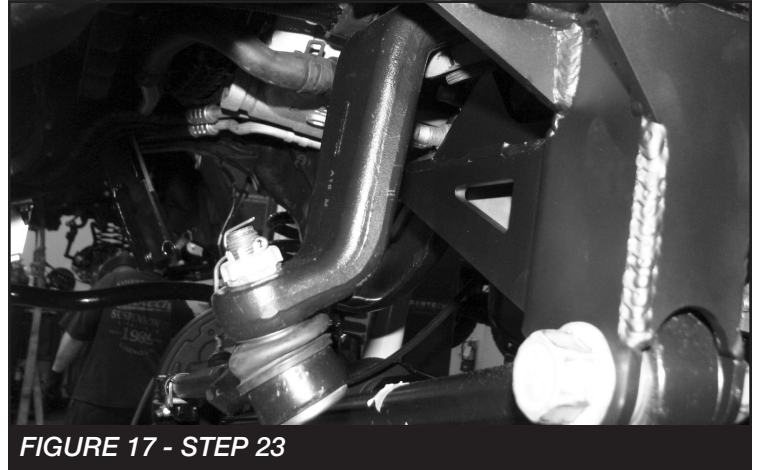

FIGURE 17 - STEP 23
23. Reinstall the track bar to the new frame bracket. Torque to 400 ft-lbs. Install the drag link to the new Fabtech pitman arm using the factory hardware and the new supplied cotter pin. Torque to 70 ft-lbs. **NOTE: The drag link will need to be rotated 180 degrees and installed from the bottom side of the pitman arm. SEE FIGURE 17**